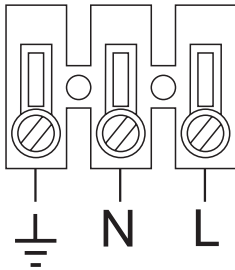

Fig.2
- Ensure that the voltage and frequency of the electrical supply match the information stated on the Data Plate of the unit (maximum recommended tolerance of Voltage (V) and Frequency (Hz)  $\pm 5\%$ ).
- The standard fans are fitted with single-phase motor. For connection follow wiring diagrams fig.2. All motors are 100% speed controllable via electronic voltage regulating speed controllers. For connection using a REB single phase speed controller, follow wiring diagrams fig.3.